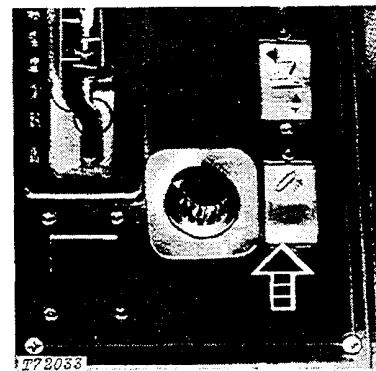

Fig. 69-Elevator Switch (unloading)
2. Move the elevator switch to unload position (Fig. 69) or to neutral.